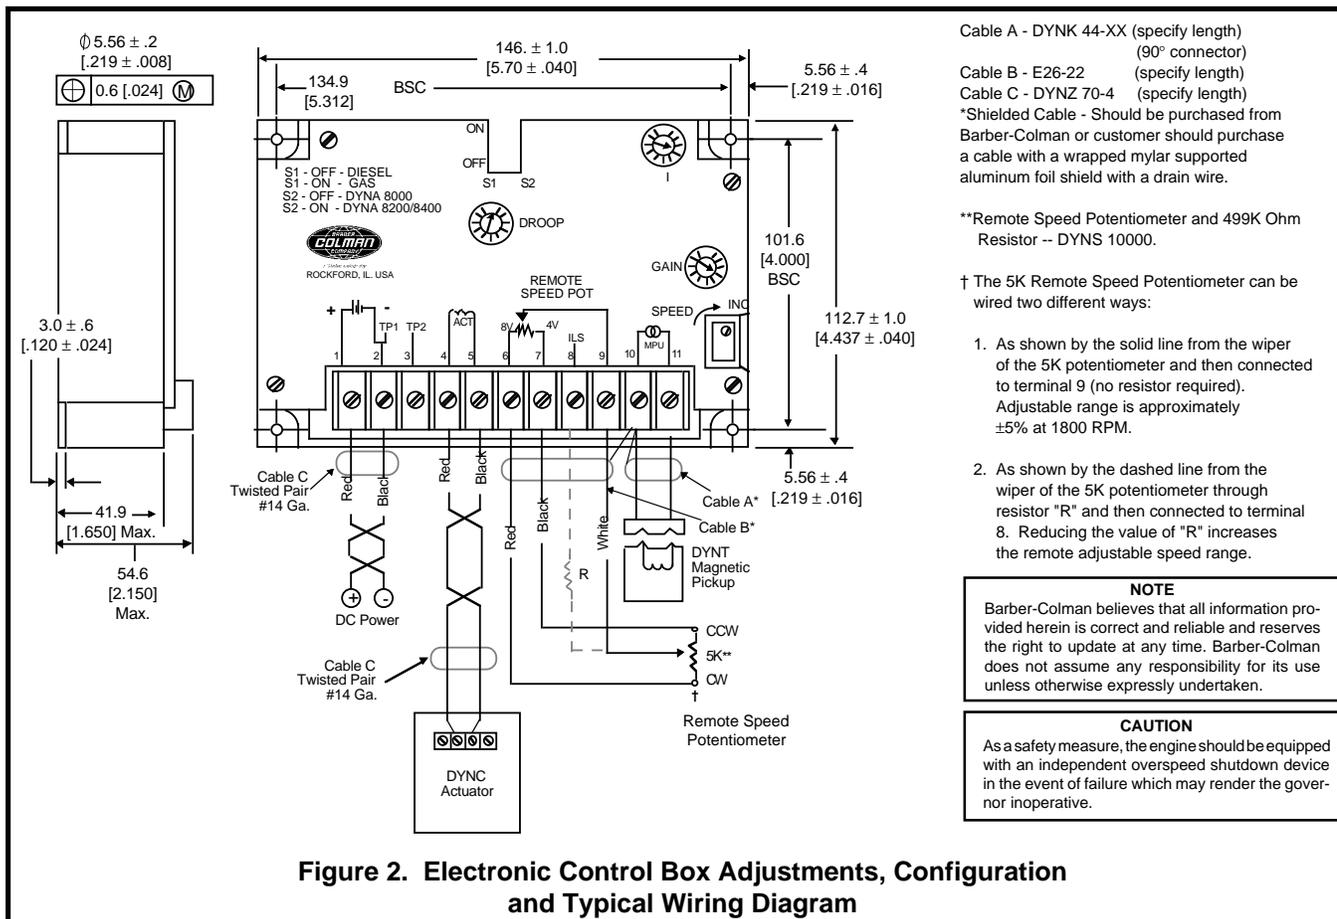

Figure 2. Electronic Control Box Adjustments, Configuration and Typical Wiring Diagram
2.1 See *Figure 2* for a reference guide before making any adjustments of the potentiometers, DROOP, I, GAIN and SPEED.
2.3.2 For isochronous operation, set DROOP counterclockwise to minimum position as shown in *Figure 2*.